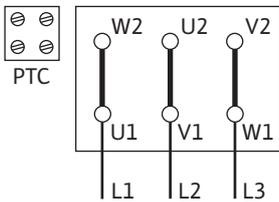
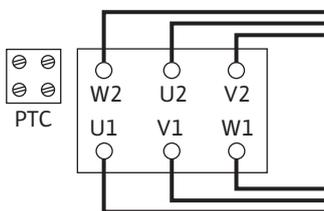

Fig. 10: Y-Δ start
Fig. 11: Δ connection
- The mains connection is dependent on the motor power P2, mains voltage and activation type. Refer to the following table and Fig. 10 and Fig. 11 for the required connection of the connecting bridges in the terminal box.
Y-Δ-start (standard)	Remove connecting bridges (Fig. 10).
Start via soft starter	Δ connection (Fig. 11)